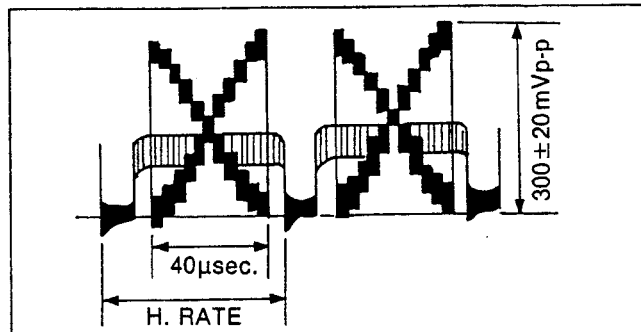

Fig. C10
- (1) Aim the camera at the Gray Scale Chart.
- (2) Connect the oscilloscope to TP514 and trigger with pin 7 of FP306 (H-rate).
- (3) Adjust the zoom to obtain 40usec picture frame as shown in Fig. C10.
- (4) Adjust the VR324 (AGC control) so that the signal level becomes 300mV $\pm$ 20mVp-p.